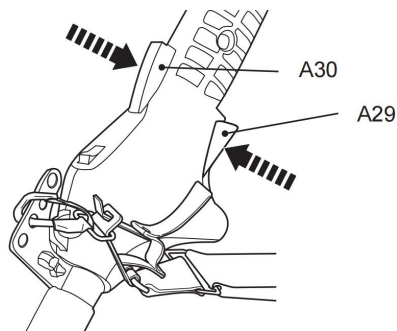

Fig. 41
8. Squeeze the throttle interlock (A30) and throttle trigger (A29) to operate the product (Fig. 41).